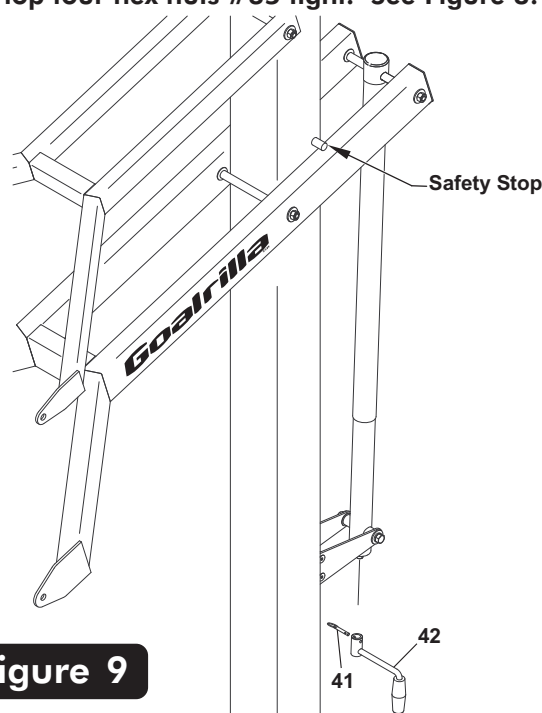

Figure 9
12. Slide Actuator Handle (#42) onto shaft on the bottom of Actuator (#16). Line up hole in shaft with hole in Actuator Handle and insert Pull Pin (#41) to secure. See **Figure 9**.
13. To aid in the assembly of the backboard lower the backboard arms by turning the Actuator Handle, until the lower arm makes contact with the Safety Stop. See **Figure 9**.